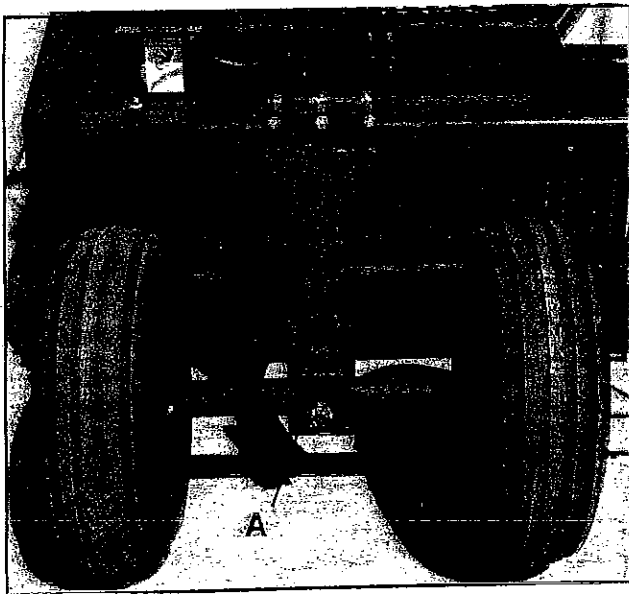

FIGURE 41 - OSCILLATING CARRIER WHEEL
Raise the rear frame bar with a jack or hoist. Use Figure 9, page 10, to determine settings for carrier wheels. It is recommended that the left oscillating carrier wheel be set to run in the far left dug row. The left wheels may also be set to run straddling the dug rows, depending on field conditions. If the wheel setting desired is different than Figure 9, page 10, add or subtract the appropriate half row spacing from the dimension given. Position the left carrier wheels first. Adjust height of carrier wheels by moving spindle support bracket (A) (see Figure 41) so machine runs parallel to ground at digging depth (2" to 3-1/2").
For traction tires, a 3" wheel strut extension is added (bolted to A, Figure 41) to give more clearance from the tires to the frame on the left side of the harvester. For the right side, the walking beam should be assembled as shown in Figure 10, page 11. To change the walking beam remove the axle bolt lock nut. Remove the four (4) plate support bolts; then remove the plate